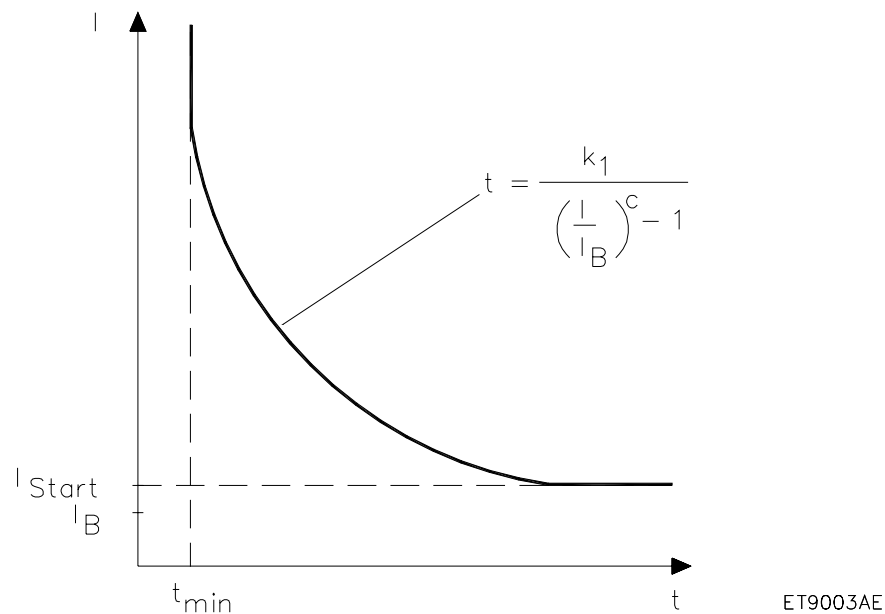

Fig. 3.5.6.1 IDMT tripping characteristic for 'I0-Invers' ($I = 3 I_0$)
- Tripping characteristic according to British Standard 142 (see Fig. 3.5.6.1):